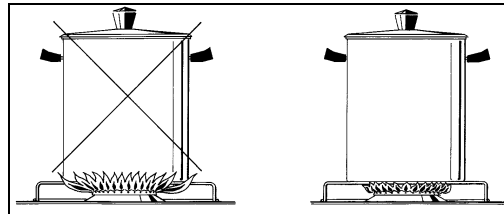

Fig.14
- Use suitable pans for each burner (see tab. n° 4 and Fig. 14).